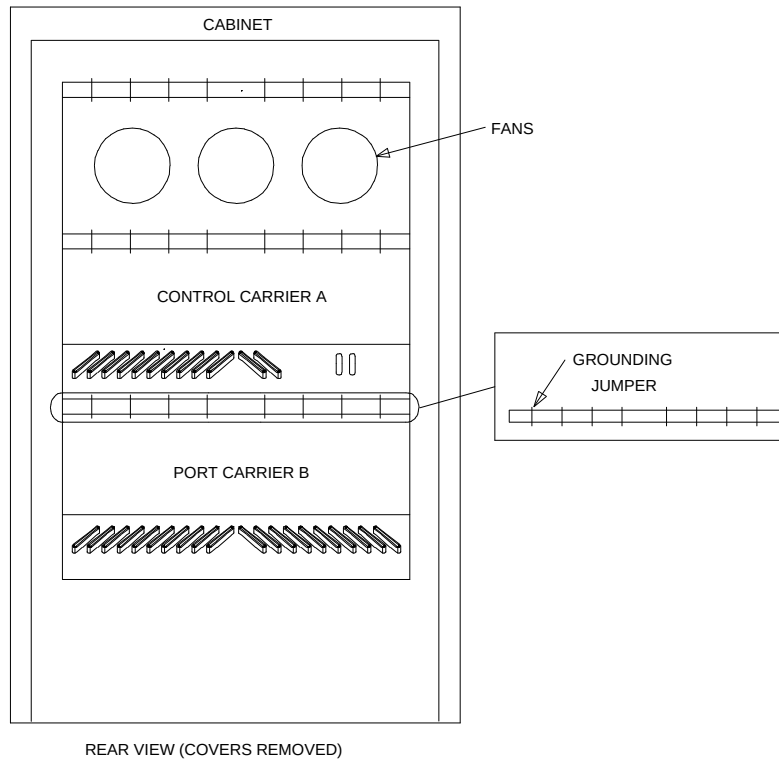

Figure 12-18. Locations of Grounding Jumpers (Small Cabinet)
7. Install eight grounding jumpers from the adjacent backplane to the new carrier backplane wiring (Figure 12-18 and Figure 12-19).